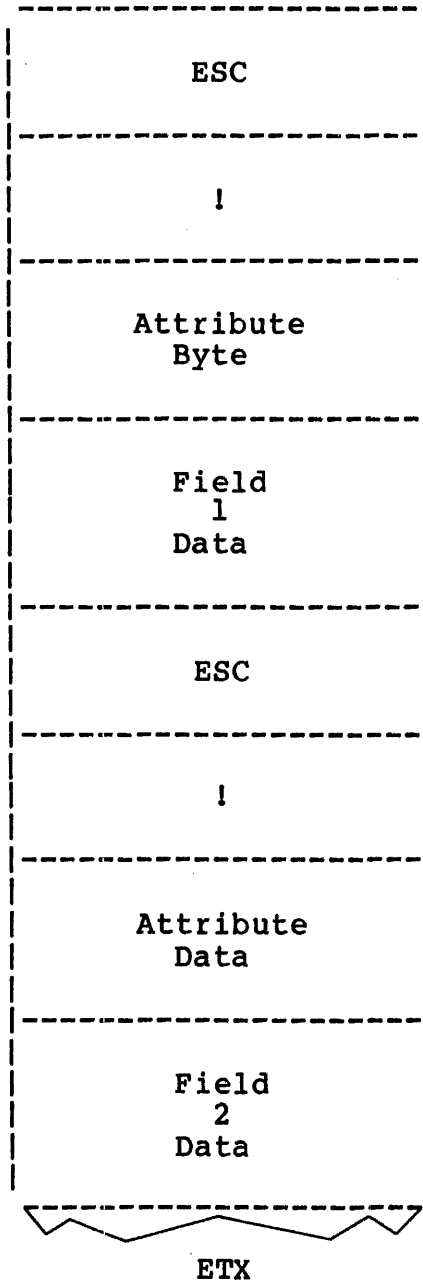

Figure 5-6 Read All with Format Screen
1. Read All. Based on the setting of the full/partial screen selector, data is transferred starting from home or the current cursor position. If the null-suppress-all-option is enabled, nulls are suppressed, and the end of a line is indicated by transmission of a CR character (X'0D'). The character LF (X'0A') is transmitted following a CR if AUTO/LF is enabled. There is no specific format for the data read in the buffer. All data displayed on the VDU is filled into the user program buffer. The data format is illustrated in Figure 5-6.